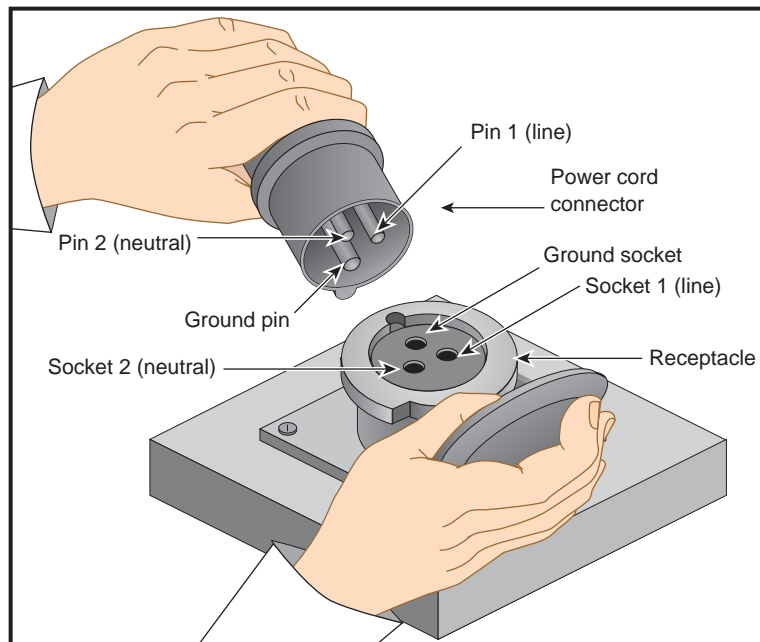

Figure 1-2 32-amp Single-phase Power Plug for International Sites
| 002 | November 2007. Corrected Figure 1-2, 32-amp single-phase power plug for international sites. |
2. Check the voltage between socket 1 and socket 2 (see Figure 1-2). The meter should read between 200 and 240 VAC.